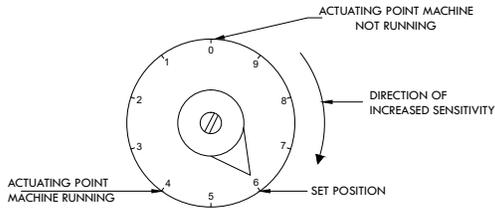

Figure A-52: Sensitivity adjustment
- A. With the equipment not running, back off the adjusting screw counterclockwise (CCW) two turns and press reset button. Then turn screw slowly clockwise until actuation occurs. This is the ZERO VIBRATION POINT, or actuating point, with the machine not running. The trip point for zero (no vibration) of the detector will occur at different points depending on its mounting orientation with respect to gravity. A mark should be made with lead pencil or other convenient means to permanently record this "zero point". Subsequent measurements are made relative to this point. See Figure A-52.